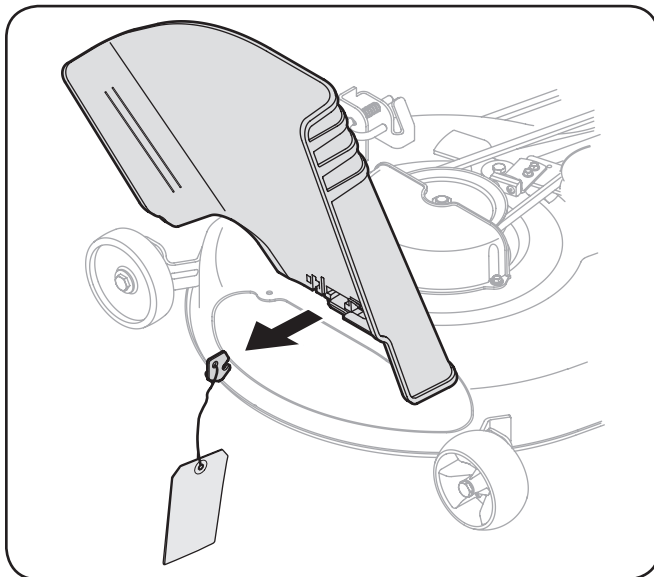

Figure 3-1
1. Locate the shipping brace, if present, and warning tag found on the right side of the cutting deck. See Fig. 3-1.